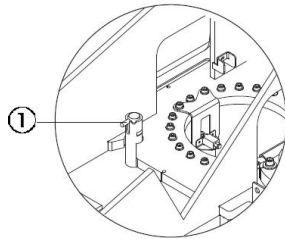

Figure 10-1 Turntable Lock Pin
- 6) Ensure the turntable has been secured using the turntable lock prior to transport, as shown in Figure 10-1. Ensure the turntable is unlocked during operation.
- 1) When transporting the machine every time, it is necessary to lock the turntable using the turntable lock pin, as shown in Figure 10-1.